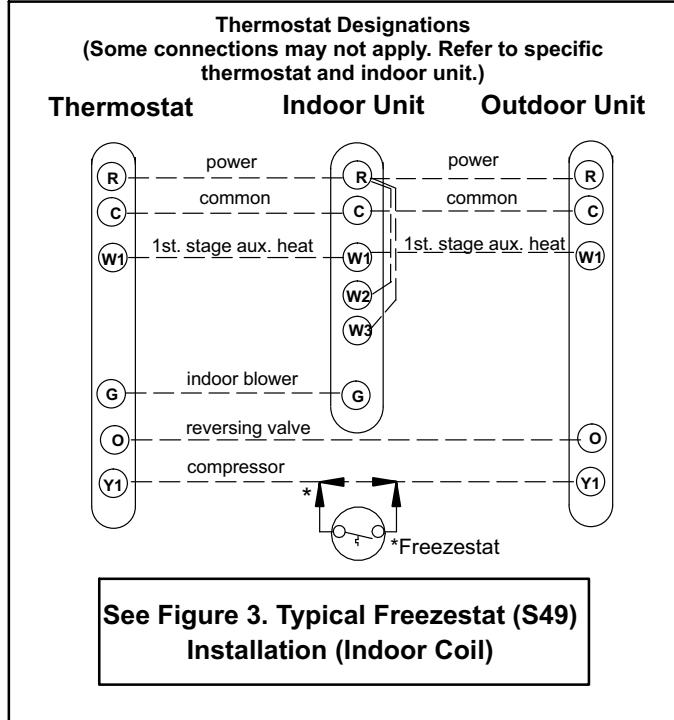

Figure 5. S49 Freezestat Installation
- Connect freezestat (S49) wires as shown in figure 5.